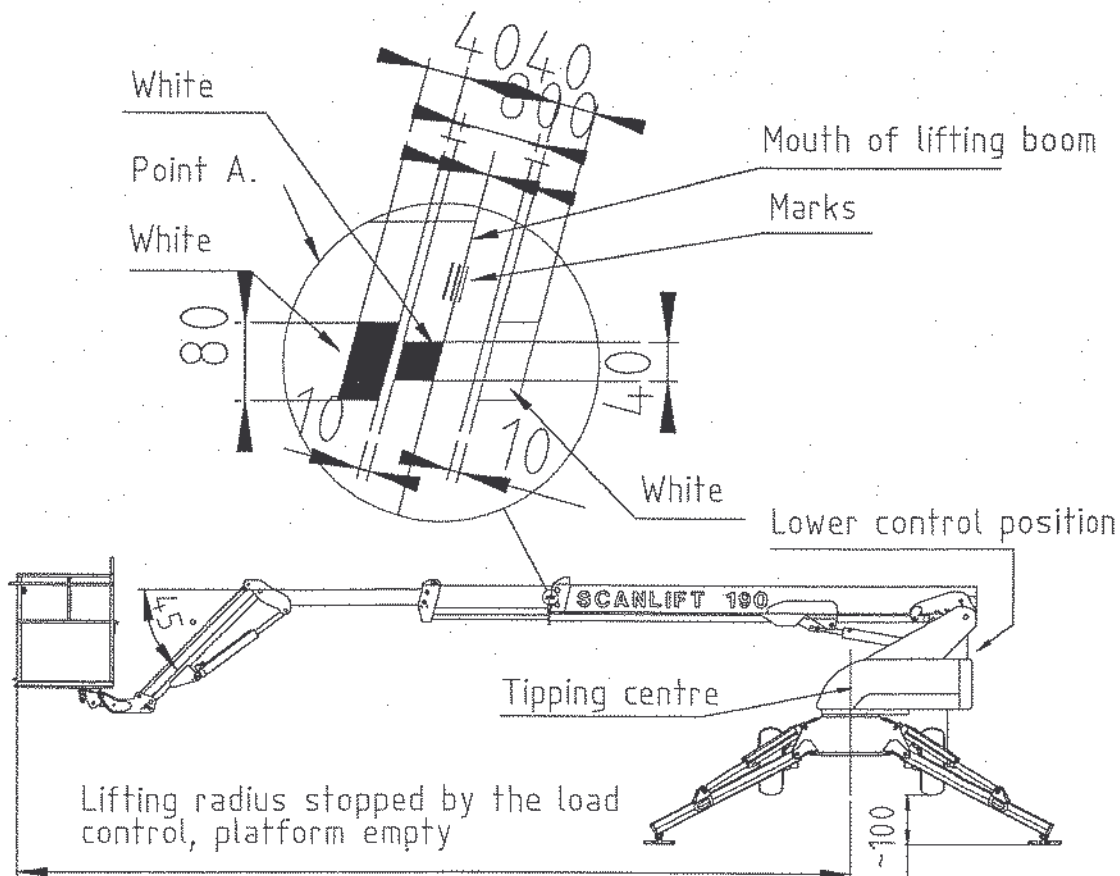

Figure 14.-1
1. Level the MEWP with the outriggers (accuracy ± 1 degrees) so that the wheels are about 100 mm off the ground. Raise the jib boom to an angle of 45 degrees to the booms. Empty the platform of all loose objects. Guiding from the turntable, raise the booms off the transport support, slew the booms about 10–15 degrees. Leave the booms on the horizontal plane. Extend the booms in one continuous movement until load control stops the movement (figure 14.-1). Note! Check soil tightness under the outrigger soles. Refer to chapter 10 Soil tightness table..
2. Make a mark on the middle boom with e.g. a felt pen, at the mouth of the lifting boom (figure 14.-1 point A). Retract the booms. Extend the booms according to item 1 three times. Mark the stopping point each time (figure 14.-1 point A).
4. Select the middle one of the marks and measure the correct place for the check marks from that in accordance with figure 14.-1 point A. Paint the marks with white, durable paint. Note! The marks can also be black. Note! Position the marks so that the side glide pads do not rub them.
5. Check the operation of the telescope load control daily in accordance with figure 14.-1 point 1. For more detailed instructions regarding daily inspections please refer to chapter 8.2 of the Operating Manual.